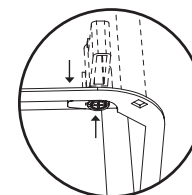

figure 2
3. Connect the ducting to the air outlet assembly. Insert unit into the roof being sure to pull the side clips inwards so the body can pass through the hole without damaging the plaster. Rotate the swing clips to hold the unit in place (figure 1) then tighten screw to let the clip hold onto the ceiling board (figure 2).